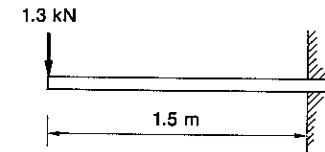

Fig. 5.21
- 5.19 Determine the equivalent force-moment system at the built-in end of a cantilever beam shown in Figure 5.21.